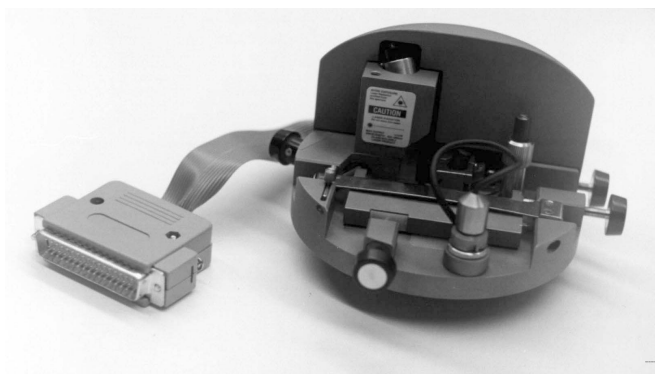

*Fig. 12*
SOLVER SPM contains a housing with electronic circuitry and processor within it (Fig. 12.A), vibration-protection system, a suspended piezoscanner (Fig. 12.B), a set of measuring heads, computer interface card. The piezoscanner is provided with a mounting for samples being investigated and an outlet for plugging in the thermal table. The basement of the microscope contains a power unit and an electronic printed-circuit board i.e. processor controlling the operation of the microscope in different modes: STM and SFM. Various heads of the SEM: STM, AFM, NearField etc. (Fig. 12, C) are mounted on the platform. Depending upon this the microscope can operate in different modes.
- 1) P47-SPM - base, power unit and an electronic board built-in the cabinet (Figure 12.A), suspension system (Fig. 12.B) with piezoscanner and approach system, protective cover for acoustic isolation and electromagnetic shielding (Fig. 14).